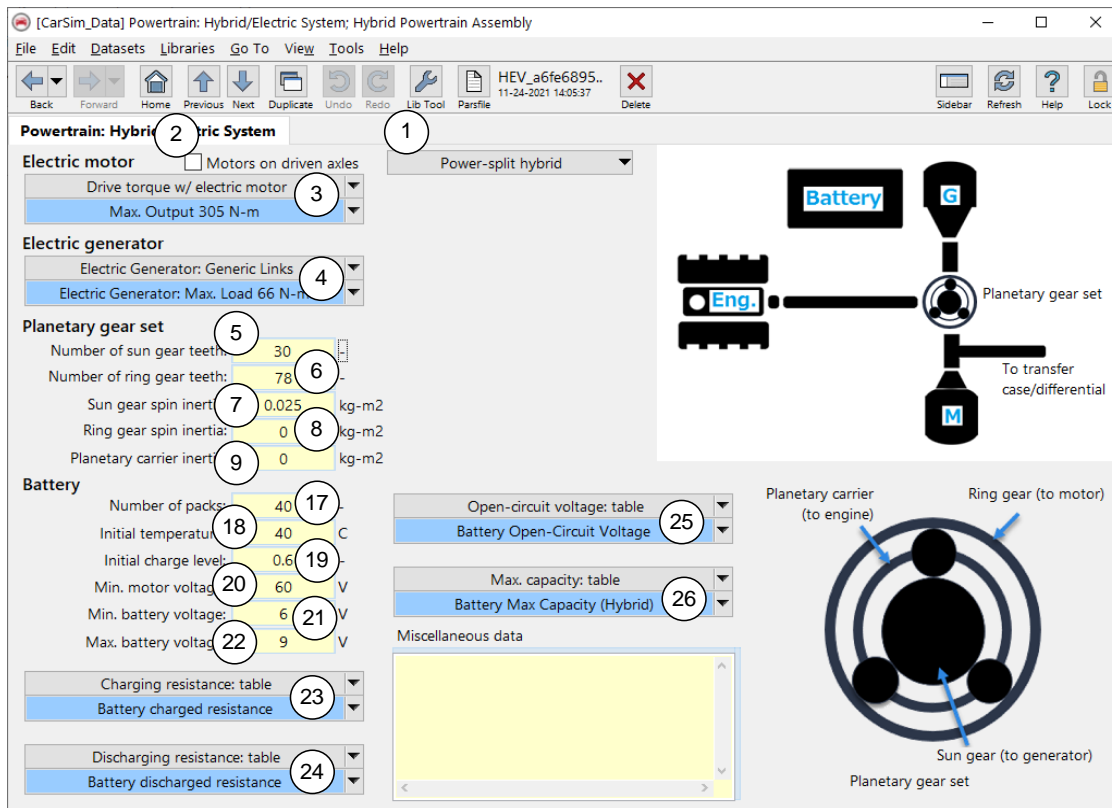

Figure 4. Powertrain: Hybrid/Electric System screen defining power-split hybrid system.
Select a hybrid system, for example, **power-split hybrid** in the list ① to view additional controls for the generator and planetary gear associated with a power-split hybrid system (Figure 4).